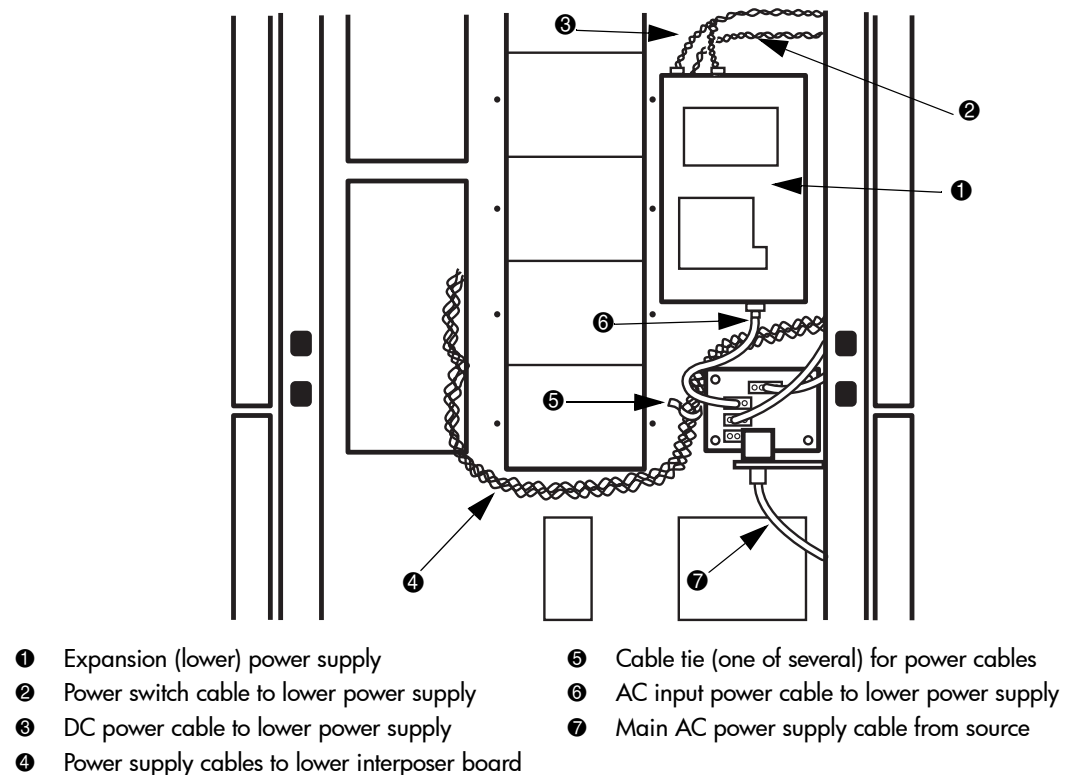

Figure 4: Connect power cable to power supplies
3. Connect the power switch cable to the lower power supply (see Figure 4).
5. Route the bundled power supply cables (item 4 in Figure 4) to the right of the lower power supply, below the lower power supply and the drive bays, to the interposer board.